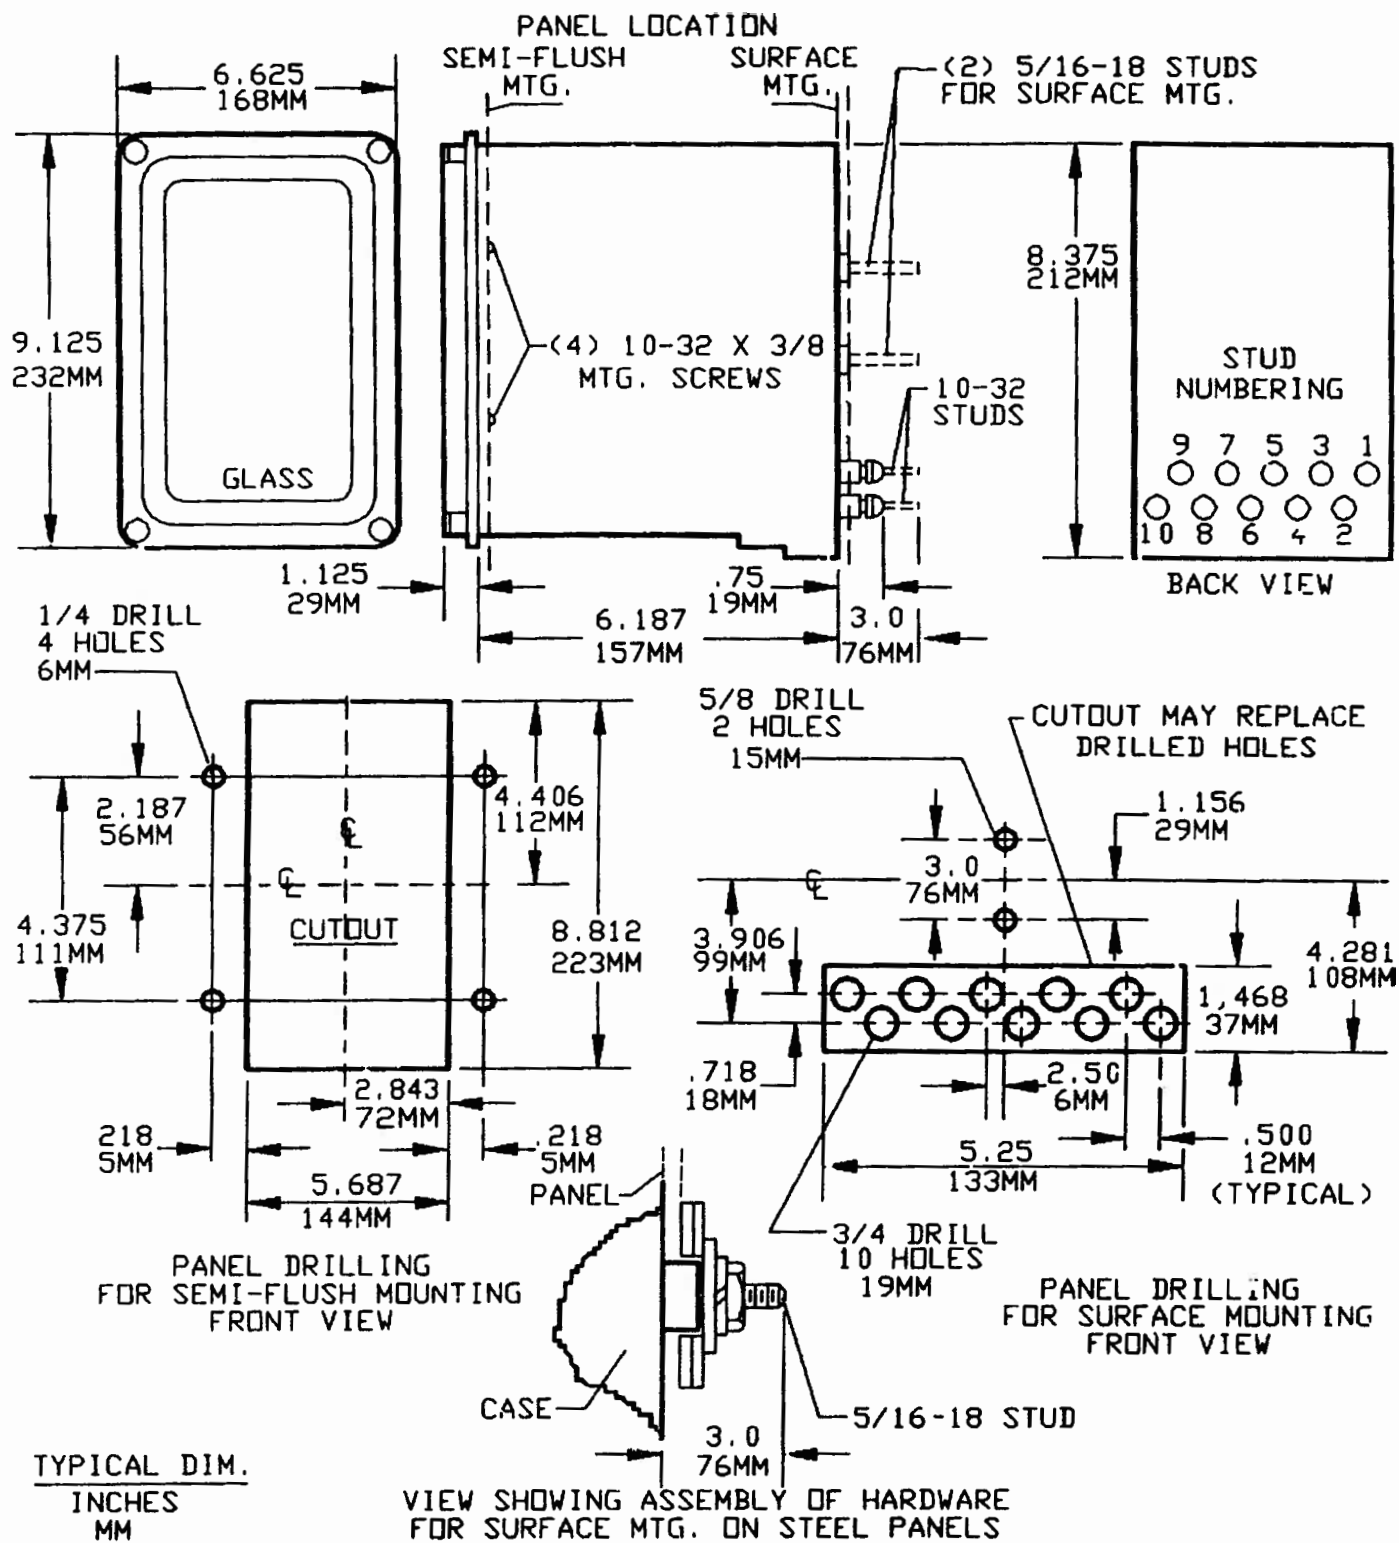

Fig. 20 (K-6209271 18) Outline and Panel Drilling Dimensions for Relay Types IAC Relays
* The relay should be mounted on a vertical surface. The outline and panel diagram is shown in Fig. 20.